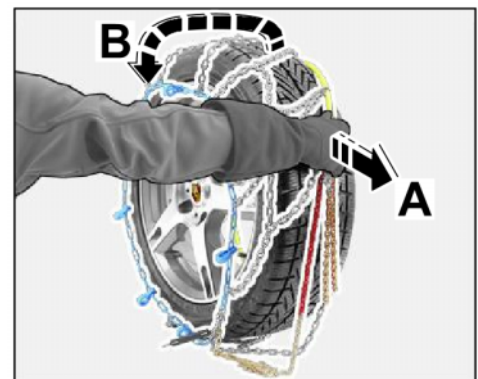

Figure 15
3.3.1 Pull the ends of the spring steel clip apart as far as possible (⇒ *Figure 15-A-*) and pull the snow chain off the wheel from above (⇒ *Figure 15-B-*).